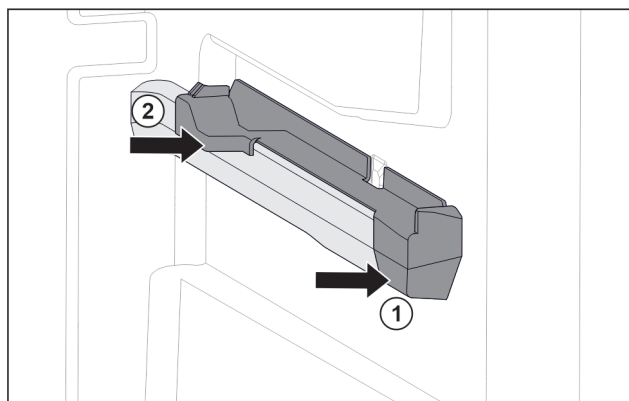

Fig. 97 Attachment on the right moulded rib
- Position attachment on moulded rib at the front. Fig. 97 (1)
- Press on attachment at the back. Fig. 97 (2)